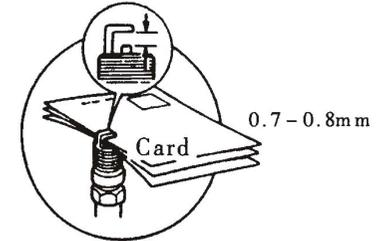

Figure 41
3.4 Check the spark plug clearance to see if it is between 0.7-0.8mm, adjust it if necessary (Figure 41)